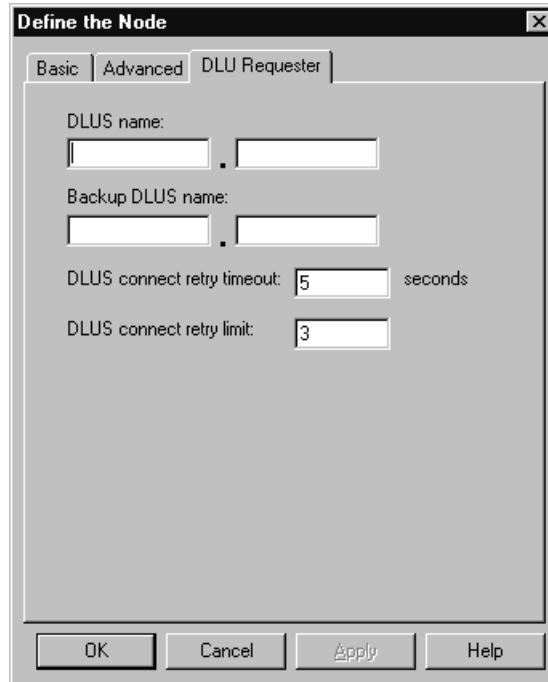

Figure 69. Define the node window: DLU requester page
- 7 For DLUS connect retry timeout and DLUS connect retry limit, use the same values that are shown in Figure 69.